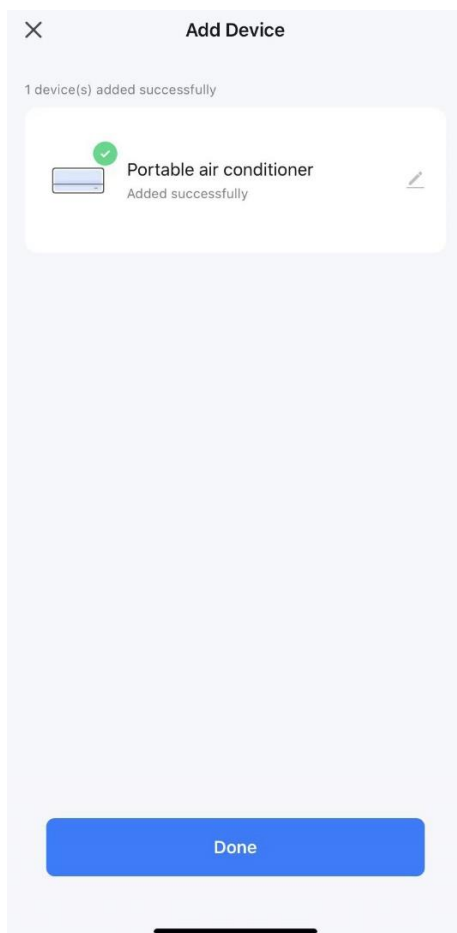

Fig.7
- 3) Wait until you get Fig.7 and then tap "Done".